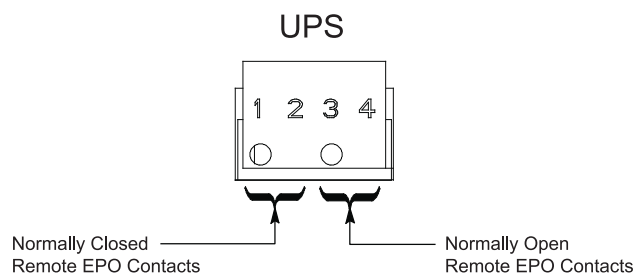

Figure 4-14: Remote EPO terminal block connector assignments
For details on Signal Input, see Figure 4-9 below, and for Remote EPO Terminals, see *Figure 4-14: Remote EPO terminal block connector assignments* on page 42.
3. To locate the appropriate terminals and review the wiring and termination requirements, see *Chapter 3.2.3 UPS system interface wiring preparation* on page 22, *Table 4-3, Figure 4-7: Interface terminal locations* on page 36, *Figure 4-8: Interface terminal detail (terminal cover removed)* on page 36, and *Figure 4-14*.